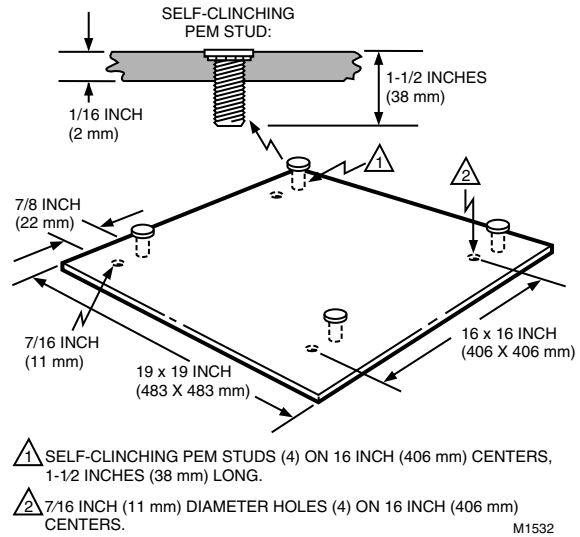
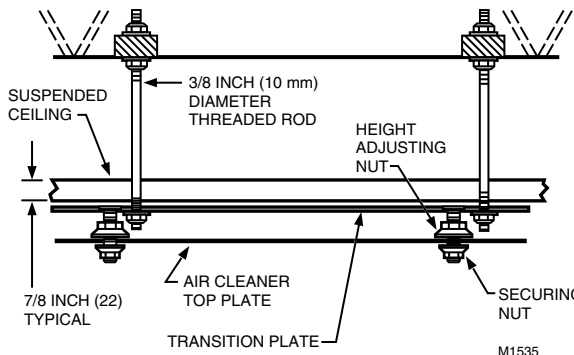

Fig. 10. Mounting F90 using 272577A Transition Plate.
Fig. 11. Mounting F90 using 272577A Transition Plate.
- Mounted into a ceiling joist or suspended ceiling using a transition plate accessory. See Figs. 10 and 11.
The transition plate (Fig. 10) allows the F90 to be mounted by one person. In the two-step process, the mounting plate is first secured directly to the ceiling joists. See Fig. 11. Then the F90 is mounted to the transition plate.